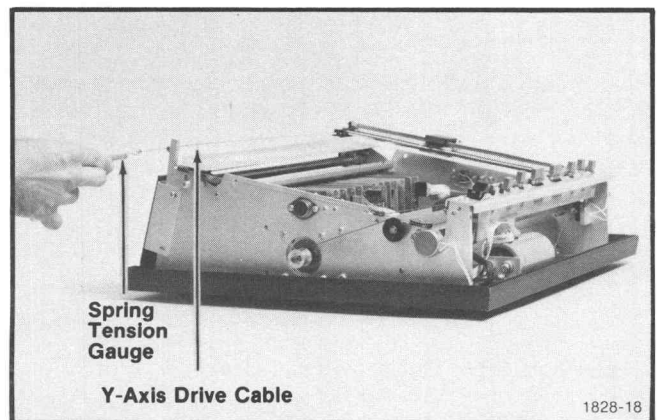

Fig. 3-18. Y-Axis Tension Adjustments.
4. Refer to Fig. 3-18. Tie one end of the Y axis cable to a spring tension gauge and loosen the securing screw; leave the other end of the drive cable fastened.